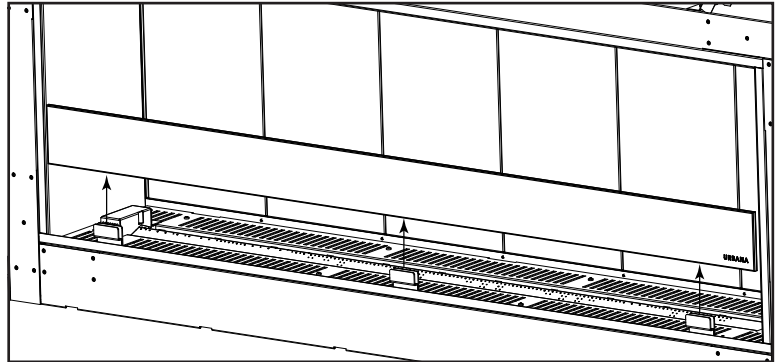

Figure 5: Wind Guard Removal
1. Remove the glass wind guard by simply lifting it up off the mounts (Figure 5).